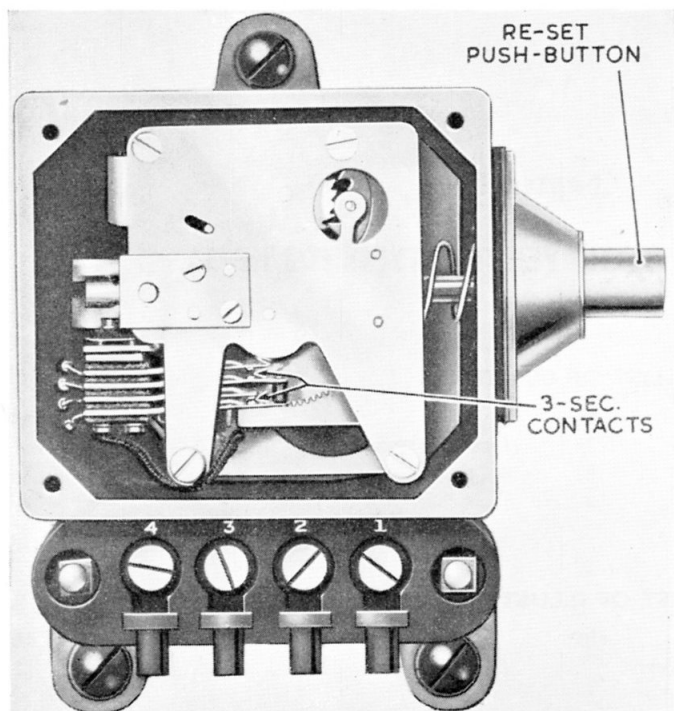

Fig. 1. Time delay switch, Type TDS/HP/3A, with cover removed
2. The switch (*fig. 1*) incorporates two sets of contacts which are operated by cams driven by a clockwork mechanism. A relay coil is fitted, which, when energized, attracts an armature to release the mechanism. The spring actuating the mechanism is reset by